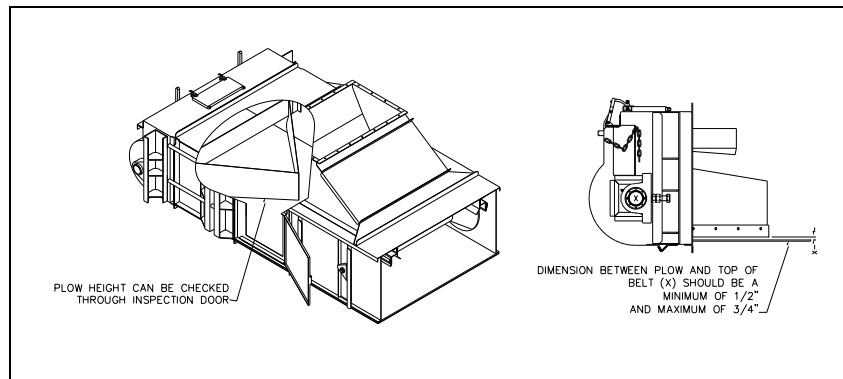

Figure 2.6.3 Tail Plow Height Adjustment
- I. Adjust the height of the plow in the tail section if necessary. Refer to **Figure 2.6.3** for details ensuring that the bottom of the plow is between $\frac{1}{2}$ " and $\frac{3}{4}$ " above the belt.